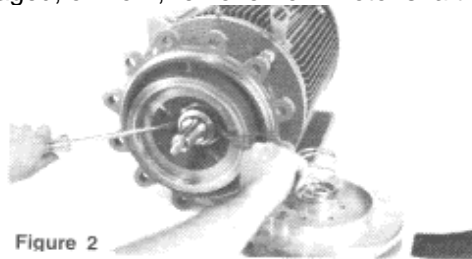

Figure 2
9. Pry off rotating member of mechanical seal from sleeve by using two (2) screwdrivers (Fig. 2).